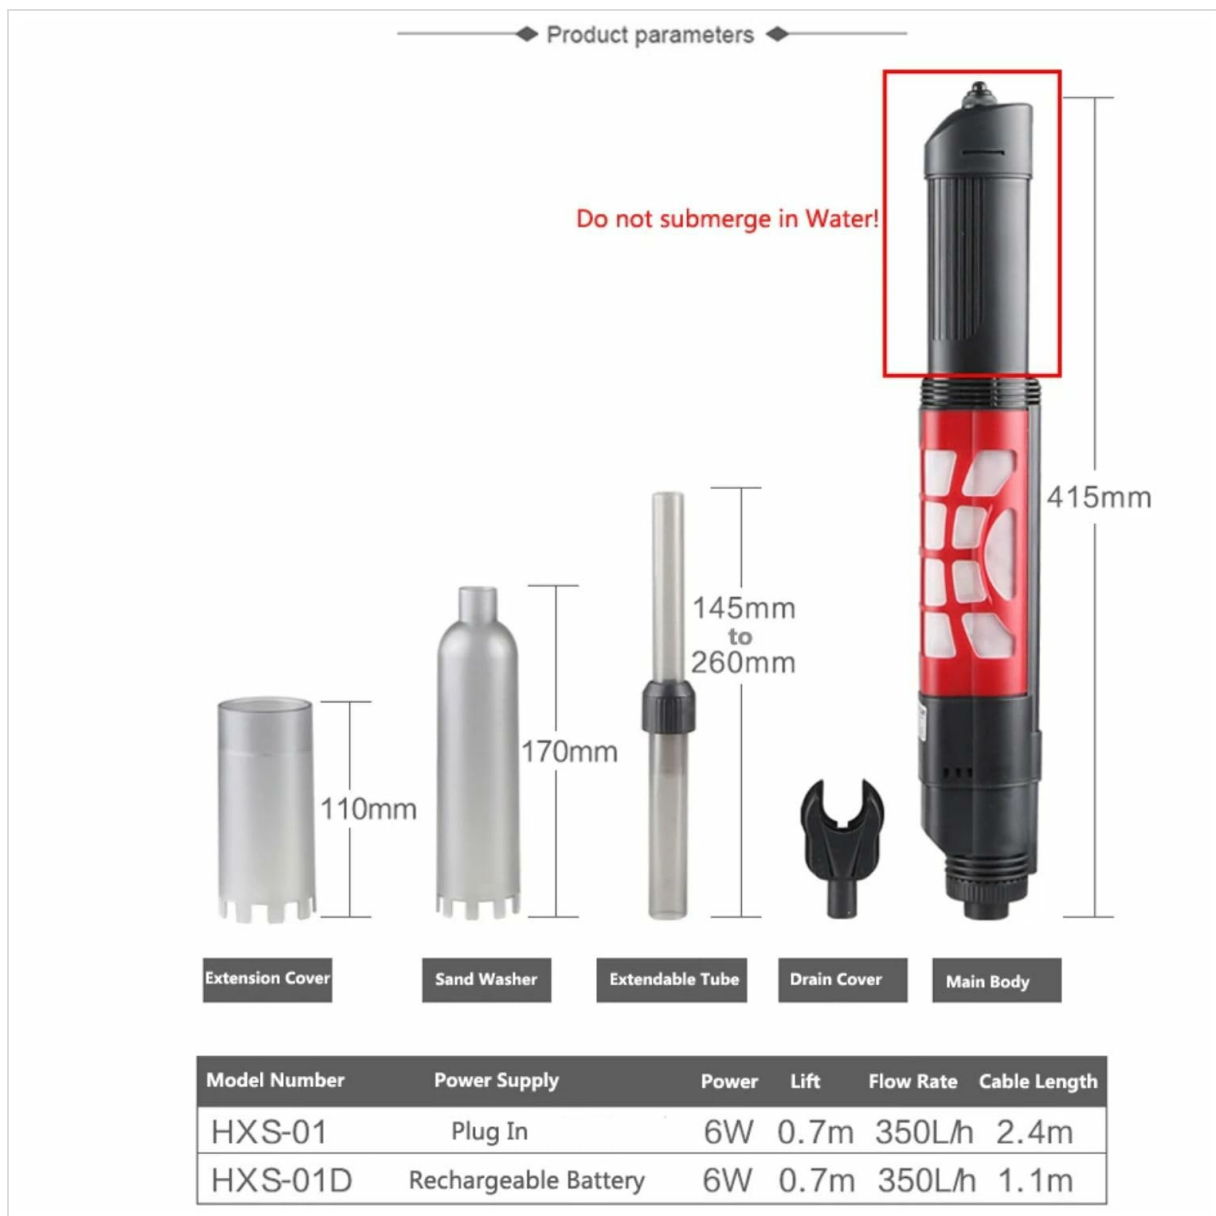

Figure 1: Product Components and Dimensions. Note: The main body (motor unit) should not be submerged in water beyond the indicated line.
- Do not submerge the main motor head (top section) in water. Refer to Figure 1 for the non-submersible area.